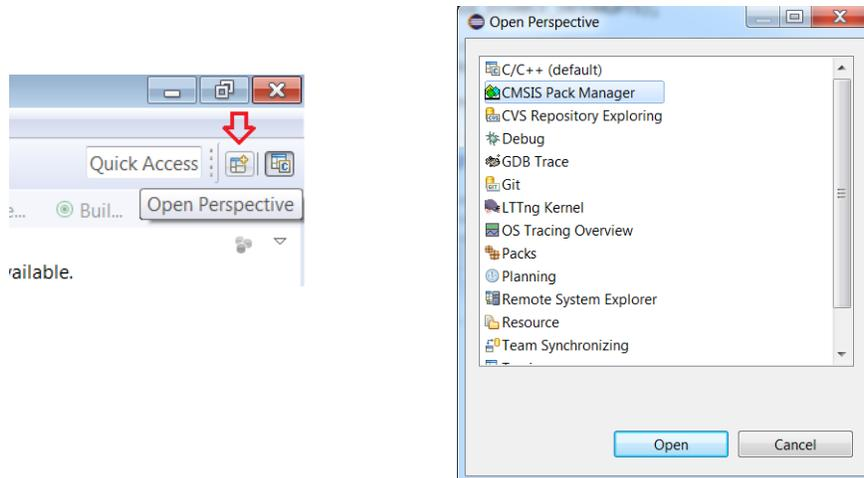

Figure 3. Opening the CMSIS-Pack Manager Perspective
3. On the top right corner, click on the **Open Perspective** icon, select **CMSIS Pack Manager**, and click **OK** (see Figure 3).